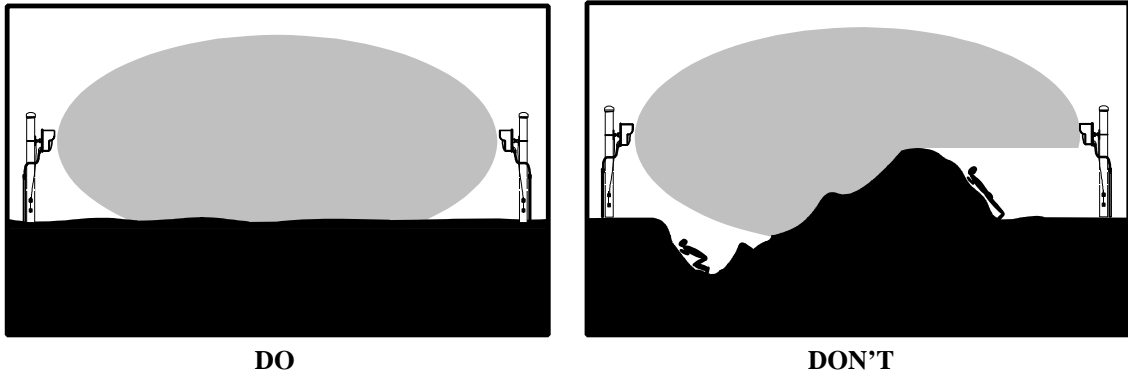

Figure 10
2. Terrain. Since the operation of Link requires transmission of energy from Transmitter to Receiver, it is important to maintain a clear line of sight between the units. Therefore, the ground must be flat across the protected area. Any bumps, hills or ditches in the area will shadow the beam and may provide crawl space for an intruder. Bumps or hills must be leveled, and ditches filled so that the area is flat to within six (6) inches (15cm). See Figure 10.